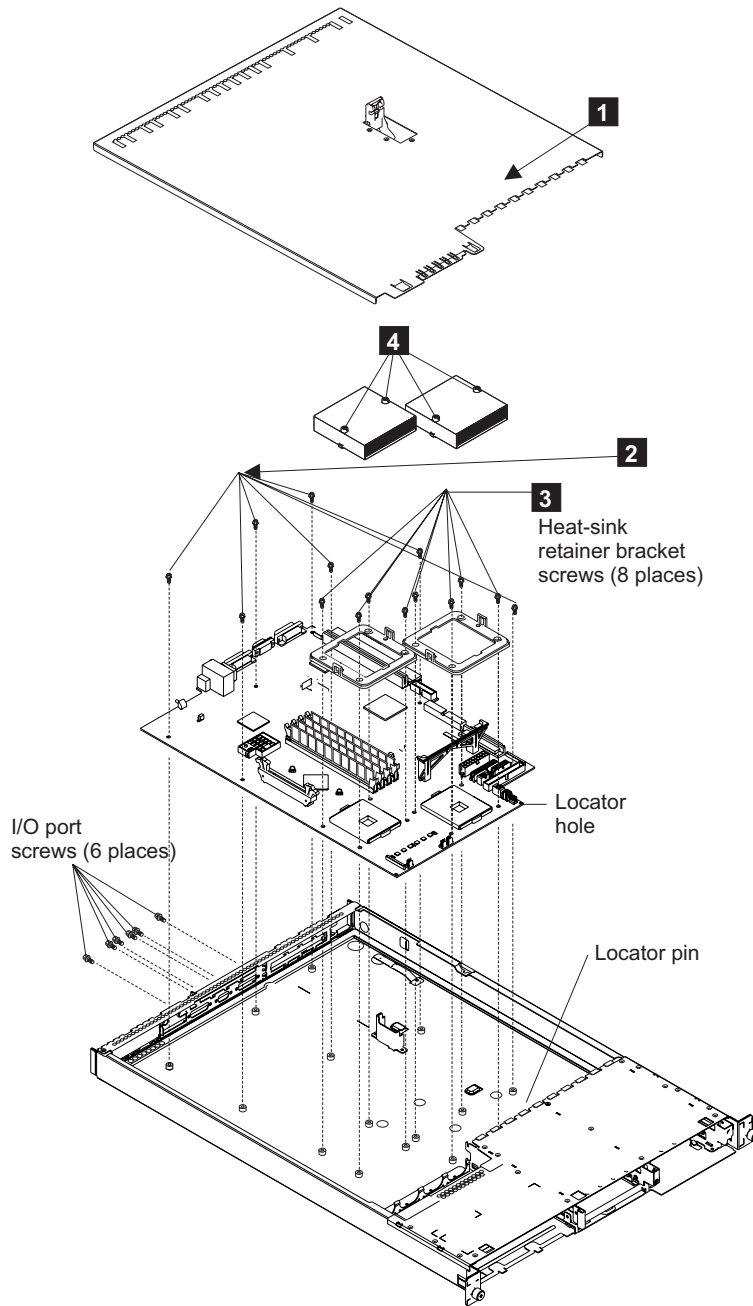

Figure 97. Removing the system board
3. Remove the top cover from the SAN Volume Controller **1**. See Figure 97 on page 268.
8. Unscrew the heat sink captive screws **4**. See Figure 97 on page 268.
10. Remove the screws from each of the heat sink retainer brackets **3**. See Figure 97 on page 268.
13. Remove the seven screws **2**. See Figure 97 on page 268.